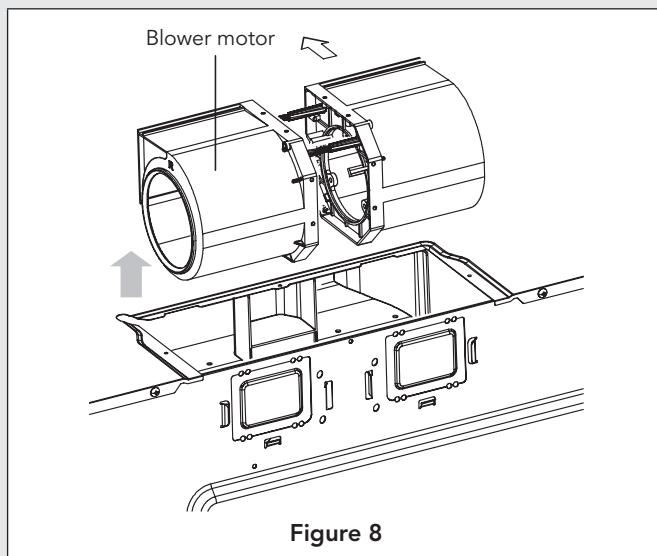

Figure 8
- Lift blower unit out of mounting location. See Figure 8.
- A-1 Ventilation motor. See Figure 8.